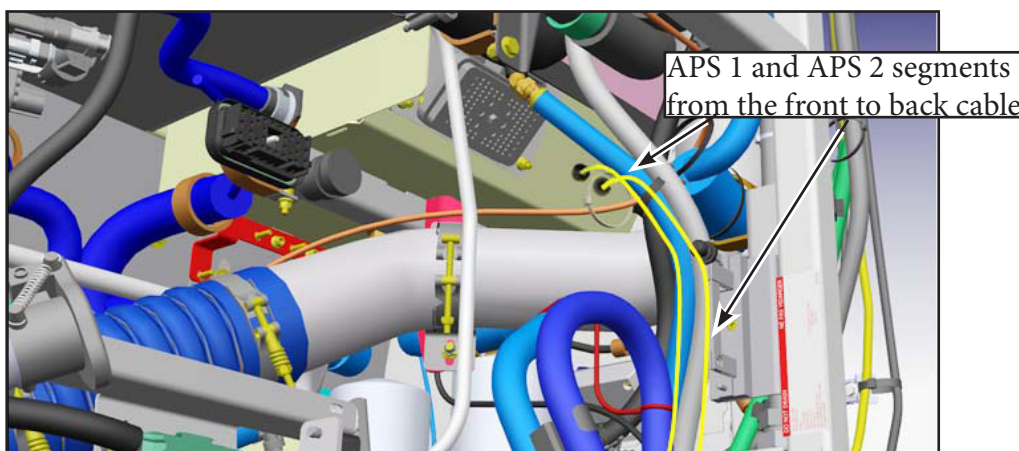

Figure 25 - Front-to-Back Cable Routing in the +IB-X6499A Area (Engine Compartment)
- 2.12. Rejoin the two APS cable segments within the convoluted tubing provided with the front to back cable wire kit. Continue routing and tie wrapping the front-to-back cable along harness 64 inside the engine compartment (see Figure 25).